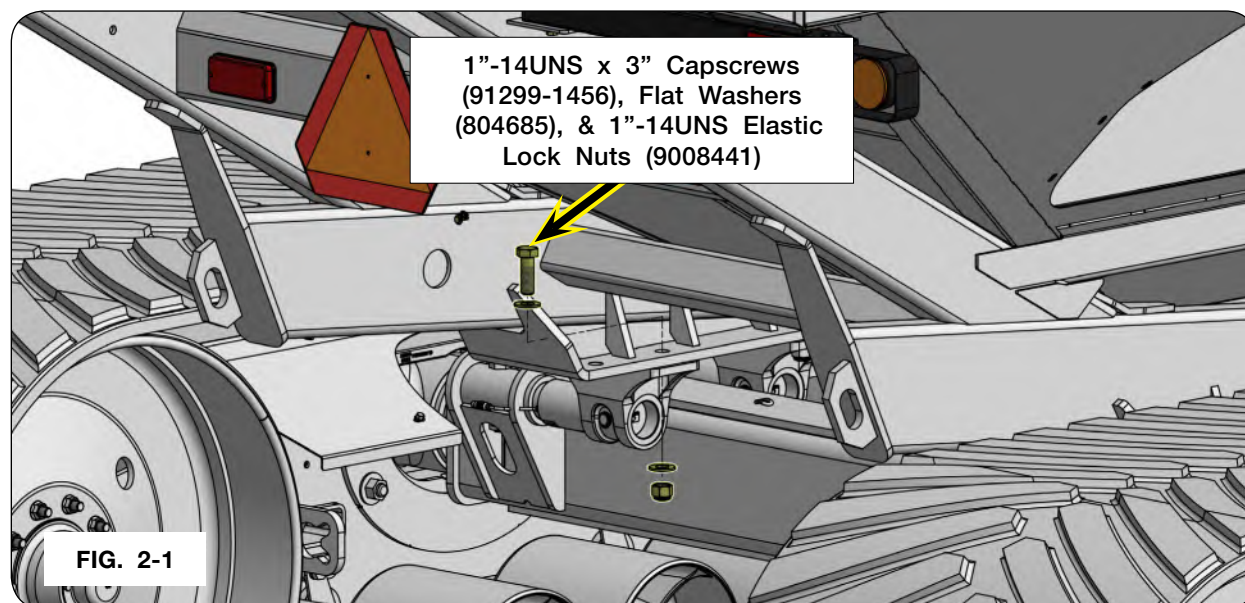

FIG. 2-1
2. Remove the rear, inner 1"-14UNS x 3" Grade 8 capscrews (91299-1456), flat washers (804685), and 1"-14UNS elastic lock nuts (9008441). (FIG. 2-1)